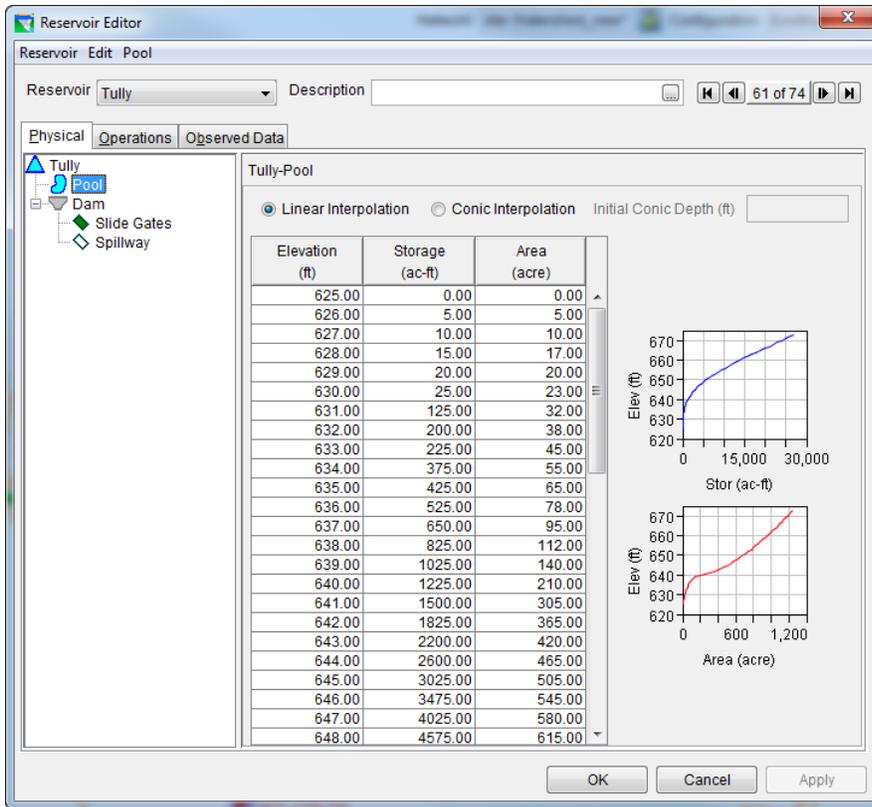
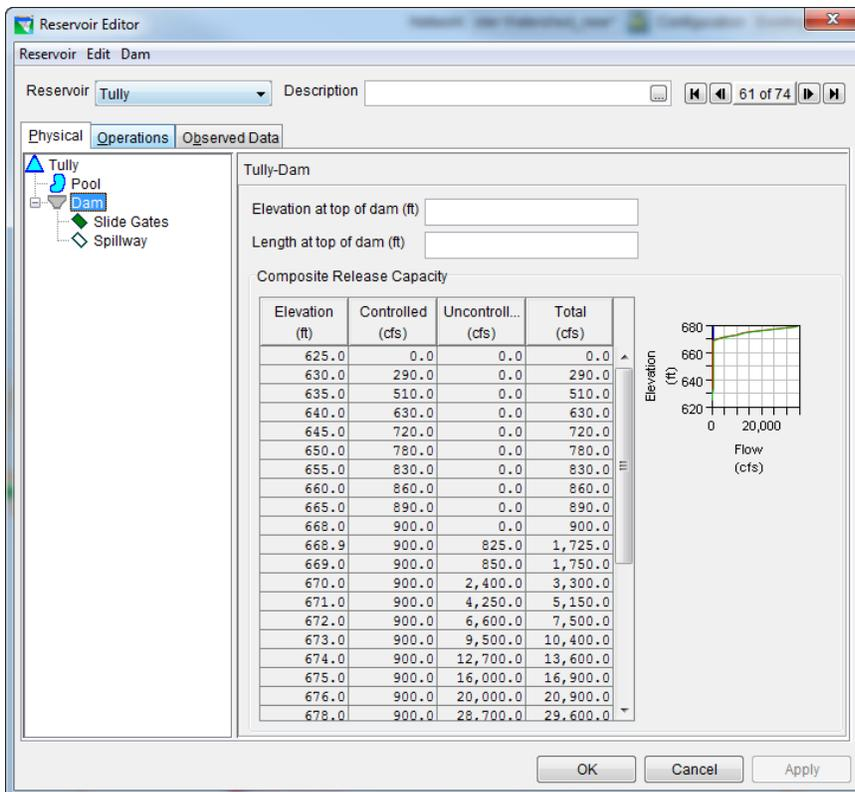

Figure 3: Reservoir Editor: Physical Tab -- Pool
Figure 4: Reservoir Editor: Physical Tab -- Dam
The physical characteristics of the reservoir are separated between the Pool and the Dam in the HEC-ResSim model. The elevation-storage-area defines the pool as shown in Figure 3. The dam consists of two types of outlets: (1) controlled slide gates, and (2) uncontrolled spillway, as shown in Figure 4. All physical and operations data were provided by US Army Corps New England District, through both a previously created ResSim model and the Reservoir Regulation Team website98.